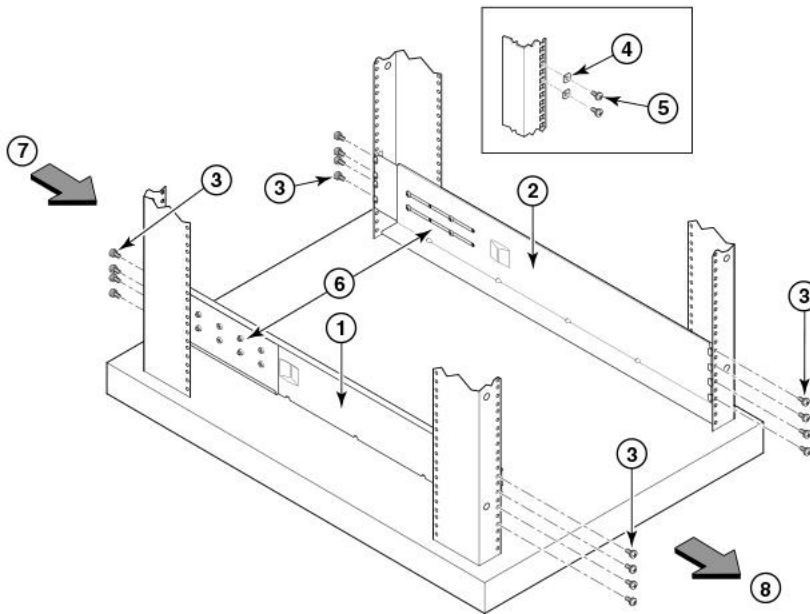

Figure 5. Left and right shelf brackets installed on rails
6. Fasten the port side of the device to the rack rails. Use three 10-32 x 5/8 inch (1.58 cm) screws per rail. Tighten the screws to a torque of 32 in-lb (37 cm-kg). Refer to Figure 5.